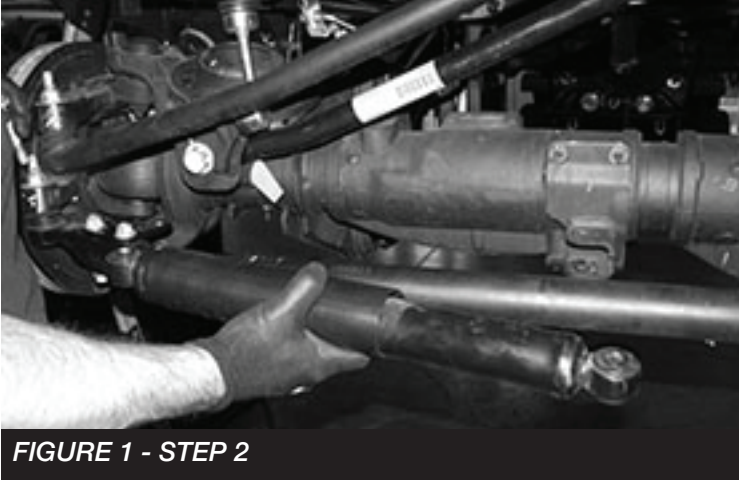

FIGURE 1 - STEP 2
2. Remove factory steering stabilizer from the front axle bracket, tie rod bracket on the passenger side and discard. **SEE FIGURE 1**